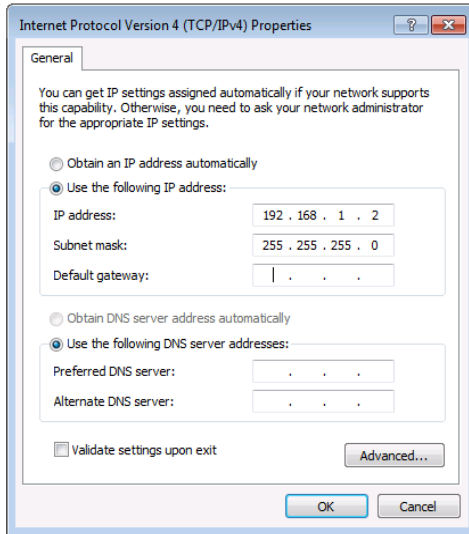

Figure 35: Internet Protocol Properties Window
6. Select **Use the following IP Address** for static IP addressing and fill in the details as shown in Figure 35.